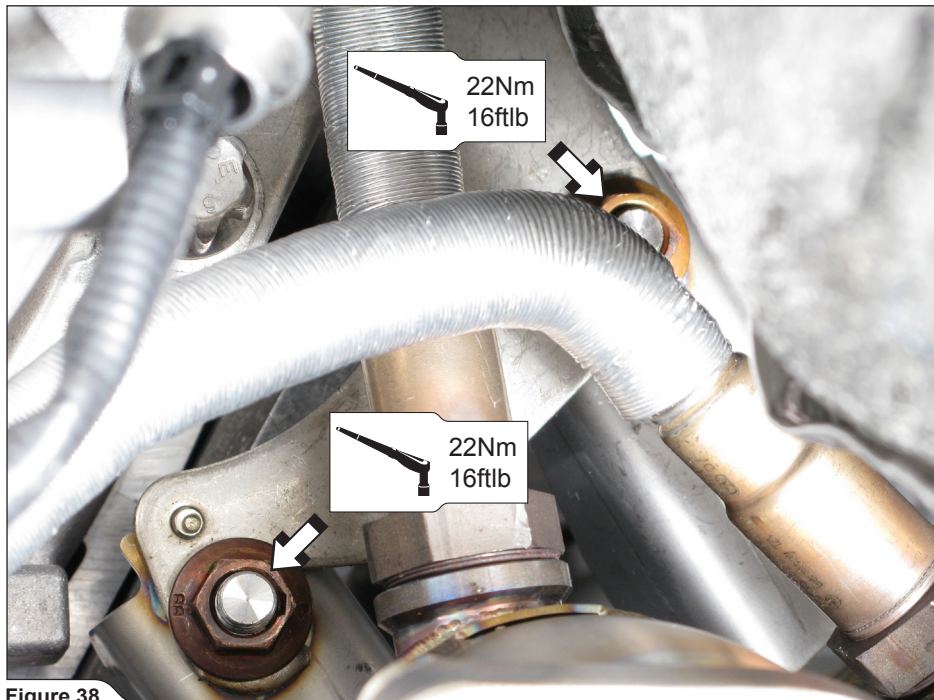

Figure 38
18. **For Evolution and optional Down Pipes:** tighten the Down Pipes bracket nuts to a specified torque (**Figure 38**).